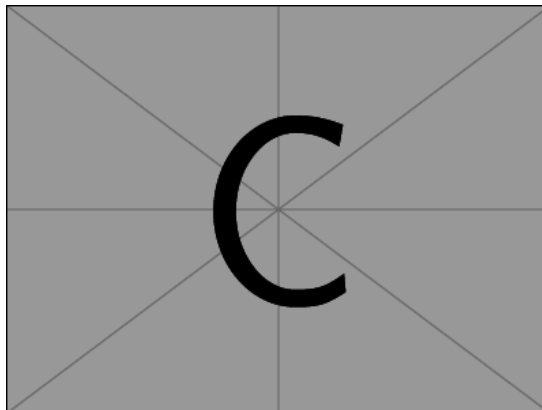

Figure 1.4.: Image obtained on the ID31 beamline
- Example of picture obtained (Figure 1.4)